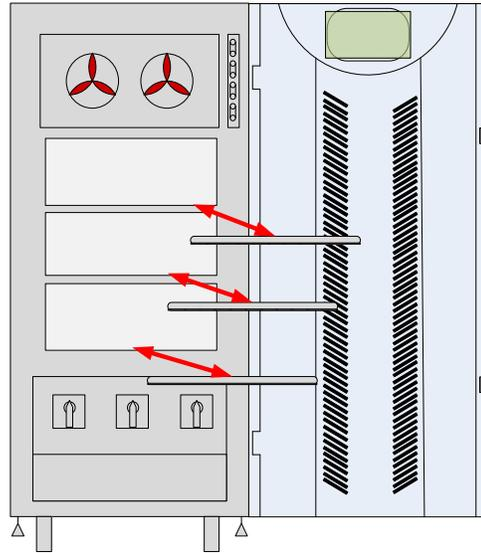

Fig. 5-9
3. Uninstall battery tray keepers by removing screws (3 total) at the front of the individual shelves. The shelves should now be clear for battery tray installation (Fig. 5-9).